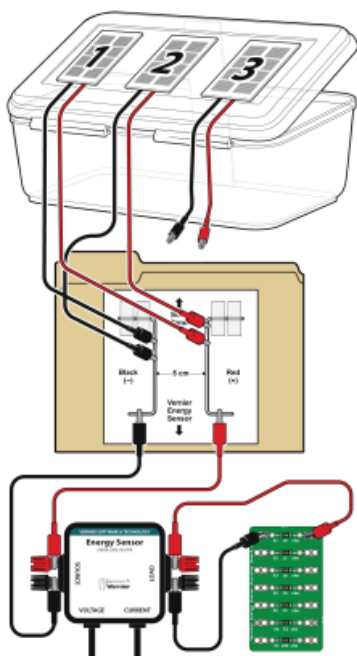

Figure 8
17. Set up a circuit with two Solar Panels connected in parallel (see Figure 8).